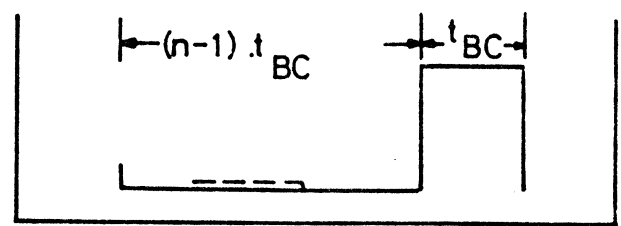

Figure 1: Bus Clock Period
- Fig. 1. Bus clock period.
The Bus Clock pulse which is generated once each cycle by the Bus Control Module, has an output as indicated in Figure 1, and is the timing source for all bus operations. The first part of the clock period allows data, etc. to settle on the lines. The leading edge of the clock pulse strobes data and control information into the modules while the trailing edge sets new status into the modules.